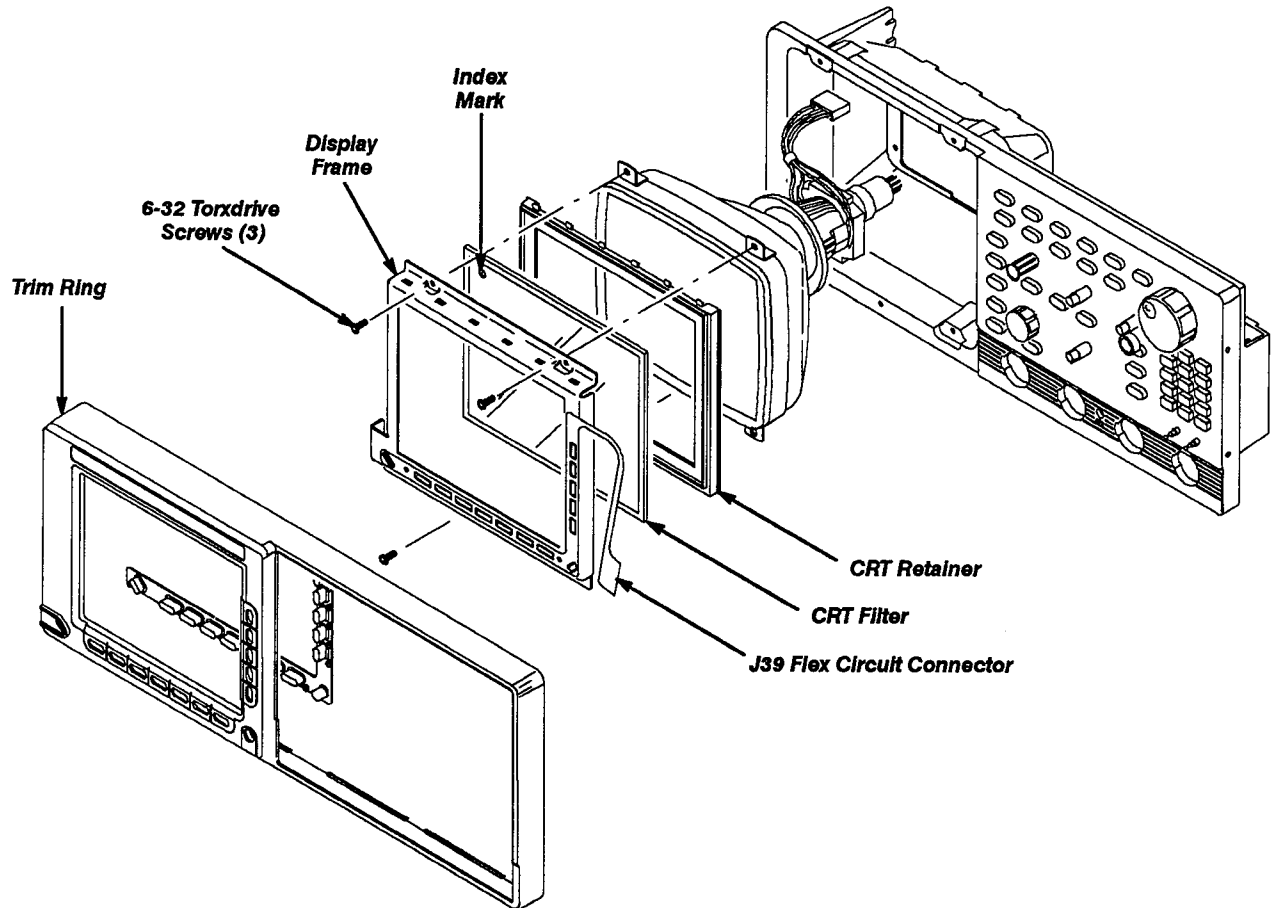

Figure 2: CRT Filter and CRT Filter Retainer assembly.
- Step 8:** Install the CRT Filter in the new CRT Filter Retainer (provided in this kit). Align the index mark (small dot) as described in the previous note. Refer to Figure 2.